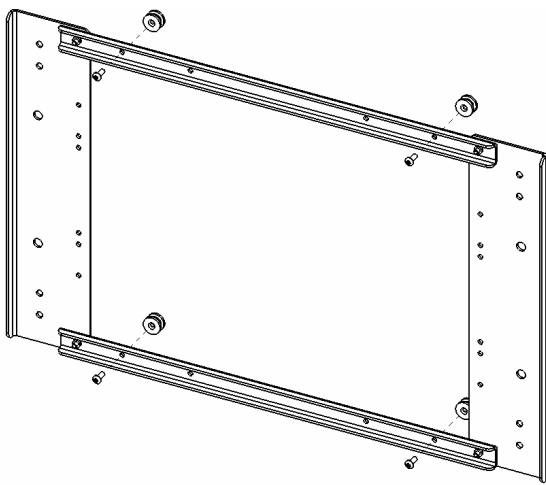
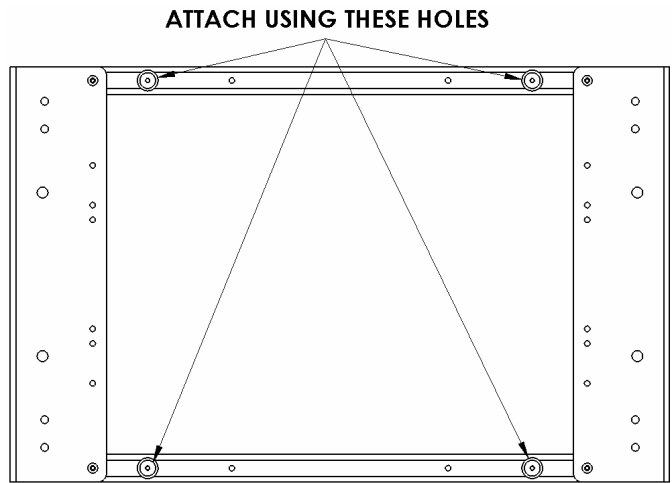

Figure 4
Figure 5
2. Attach mounting buttons to horizontal bars. Use 10-24 button head cap screws and 1/8" hex key. (see Figure 4 & Figure 5).